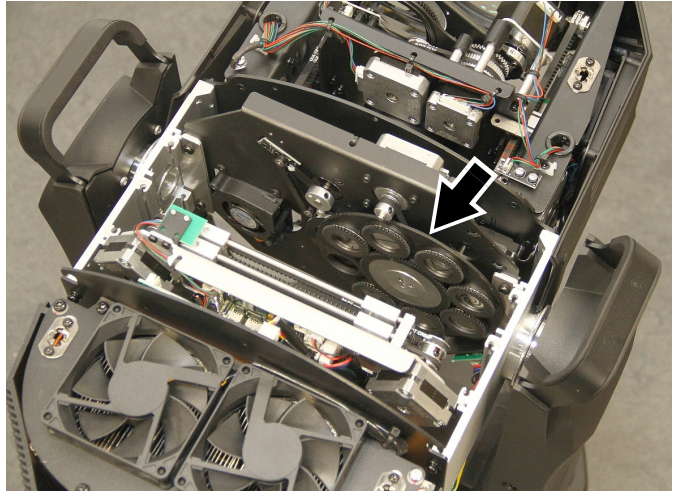

Figure 17: Gobo Wheel 3
2. Remove Gobo Wheel 1 from the fixture as described earlier in this chapter. See Figure 17. You now have access to the rotating gobos in Gobo Wheel 3 (arrowed) without any need to remove this gobo wheel from the fixture.